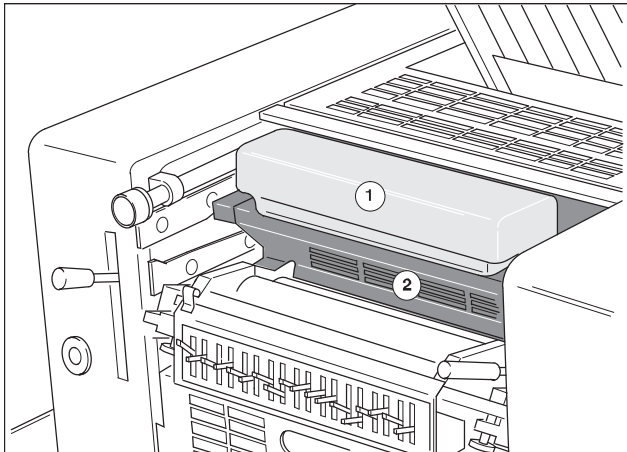
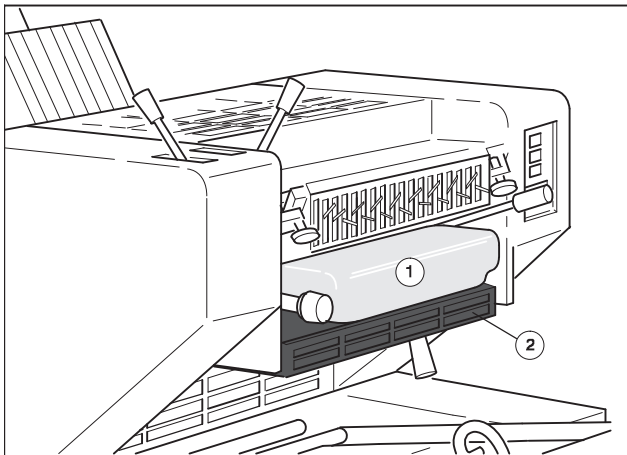

Fig. 4 Dampening solution container PU 1
Fig. 5 Dampening solution container PU 2
1. Remove the dampening solution container (PU 1 Fig. 4/1, PU 2 Fig. 5/1).
6. Insert the dampening solution container together with the valve into the opening on the dampening system guard (PU 1 Fig. 4/2, PU 2 Fig. 5/2).